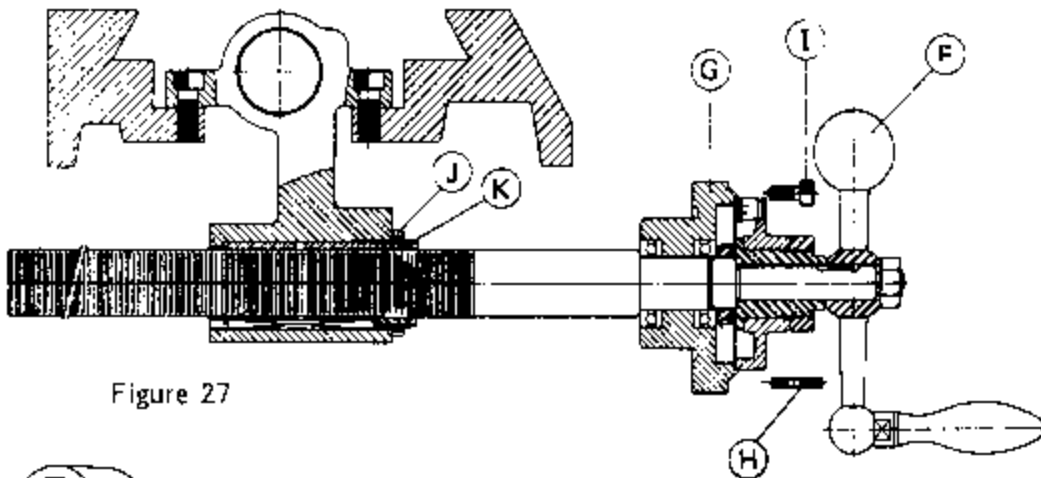
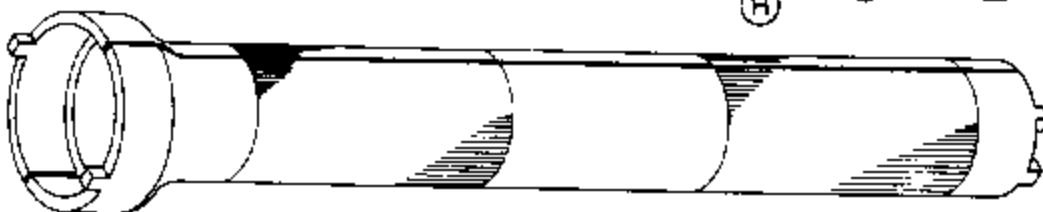

Figure 27
Figure 28
A. Adjustment of cross leadscrew (Vide Figure 27):
- a. Turn counterclockwise the crank (F) and move the saddle seat to the foremost position of knee.
- b. Remove the two setting pins (H) of the front bearing bracket (G) and take off the four socket HD cap screw (I).
- c. Support the cross feed bearing bracket (G) and turn clockwise the crank (F) so that the bracket will be separated from the knee with a certain distance between them (as shown in Figure 28, the distance must be longer than the length of the adjusting tool).
- d. Insert the larger end of clearance adjusting tool into the knee and turn the locking nut (J) one round anticlockwise. Reverse the adjusting tool and insert the smaller end into the knee. Turn the nut (K) clockwise and lock it up.
- e. Turn clockwise and anticlockwise the crank (F) and measure a clearance of approximately 3-4 graduations (0.06mm-0.08mm or 0.003"-0.004") on the dial. Lock up (J) consequently.
- f. Turning counterclockwise the leadscrew into the knee until the front bearing bracket seat gets in contact with the knee. Insert the two setting pins (H) and lock up tightly the four cap screw (I) of the bearing bracket.
- Loosen the lock lever (L).
- Use a screwdriver and adjust the gib screw (M) on both sides of saddle seat.
- Adjusting skill: If the turning of crank (F) (Vide Figure 28, P. 29) is sensed too loose, loosen slightly the adjusting gib screw on the right side of saddle. Then, lock up the adjusting gib screw on the left side. Turn the crank again to see if it is in good tightness. Otherwise, loosen the left adjusting gib screw and lock the right one tightly. Repeat the same motion until the work table sliding is satisfactory.